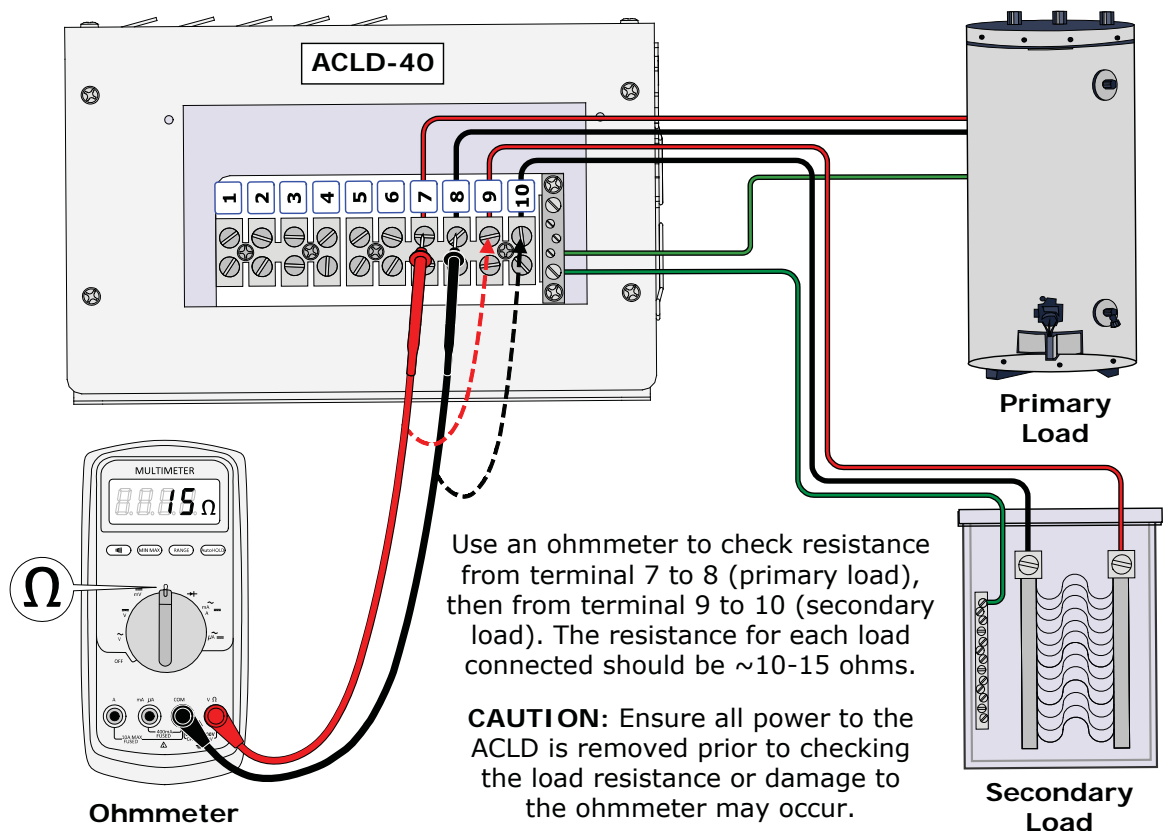

Figure 3-11, Checking Load Resistance
**Remedy:** Check to ensure that the loads are rated for 240 VAC, sized correctly (see Section 2.9.2 on load sizing criteria), and connected to the correct output terminals (see Figure 2-5). The loads should have a resistance between 10-15 ohms (see to Figure 3-11).
**Remedy:** Check to ensure that the loads are sized and connected correctly. See Section 2.9.2 on load sizing criteria. Refer to Figure 3-11 to check the load resistance.